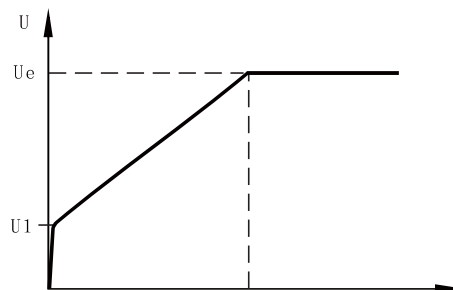

Figure 12-2-1
- The soft starter will be under voltage starting mode when code F9 is set to 1 (voltage). Figure 12-2-1 shows the output voltage wave of the output ramp starting. U_1 is the starting voltage value at start, when the motor starts, if the current of the motor is within the range of the rated value 400%, the output voltage of the soft starter will increase to U_1 rapidly, then the starting parameter set according to the output voltage will rise gradually, and the motor will accelerate smoothly with the rising of the voltage and reach the rated rotation speed when the voltage reaches the rated voltage U_e , then the bypass contactor will close and the whole starting process completes.